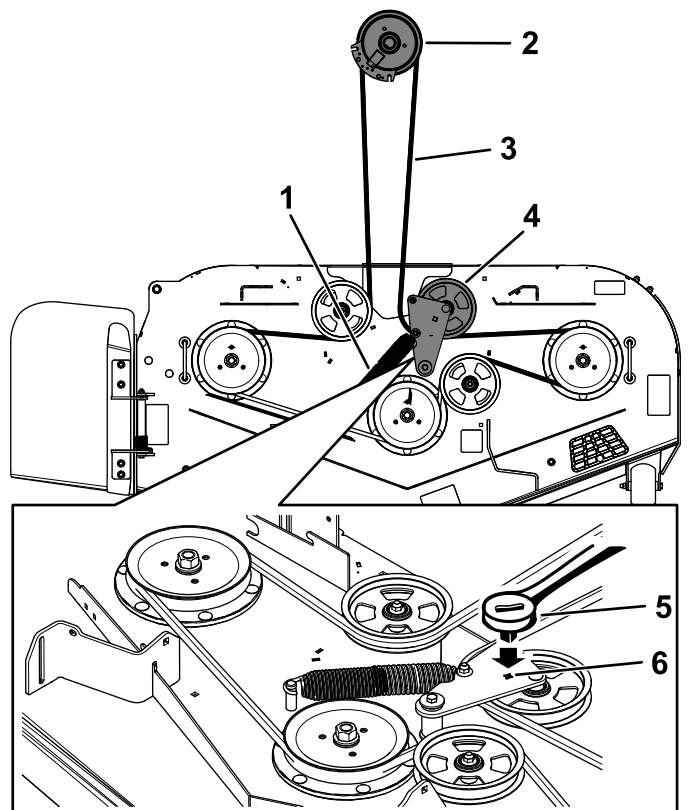

Figure 62
13. Install the belt guide on the idler arm (Figure 62).
14. Using the 3/8-inch ratchet in the square hole, install the idler spring (Figure 62).
8. Use a 3/8-inch ratchet in the square hole in the idler arm to remove tension on the idler spring (Figure 62).
10. Remove the belt guide on the spring-loaded idler arm (Figure 62).
12. Install the new belt around the mower pulleys and the clutch pulley under the engine (Figure 62).